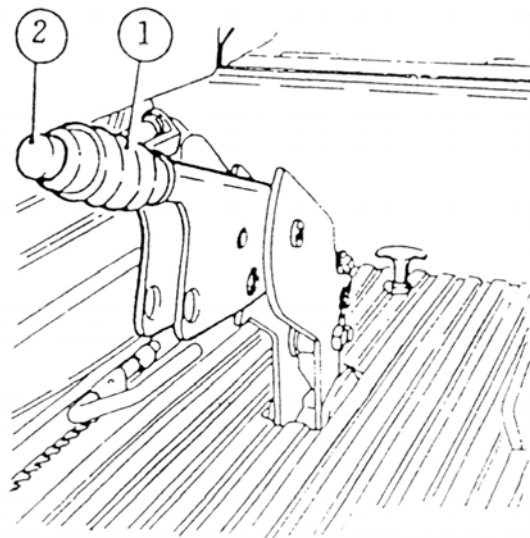

Fig.15
7.3.8 Hand brake lever (Fig. 15)
Pulling up the hand brake level (Fig 15/1)
Pull it slightly up, press the knob (Fig 15/2) and